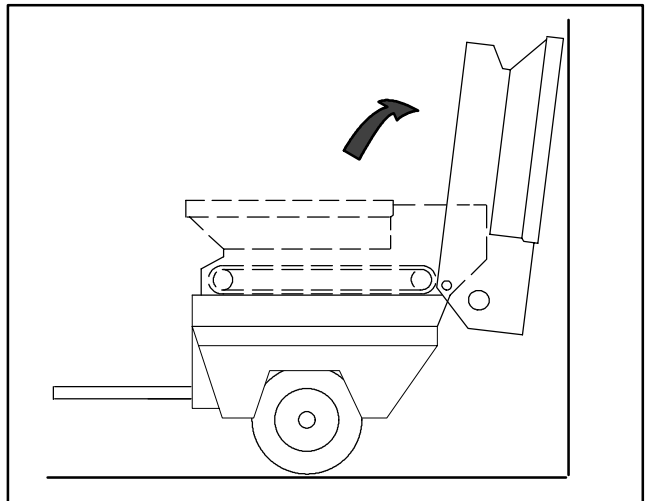

Figure 26
5. Pivot hopper rearward and lean against wall, ladder, etc. Do not allow hopper to rest against rear of machine as damage may result to brash or hydraulic couplers (Fig. 26).
IMPORTANT: Make sure hopper is pivoted beyond center and/or secured to wall or post to prevent it from accidentally falling on work area (Fig. 26).